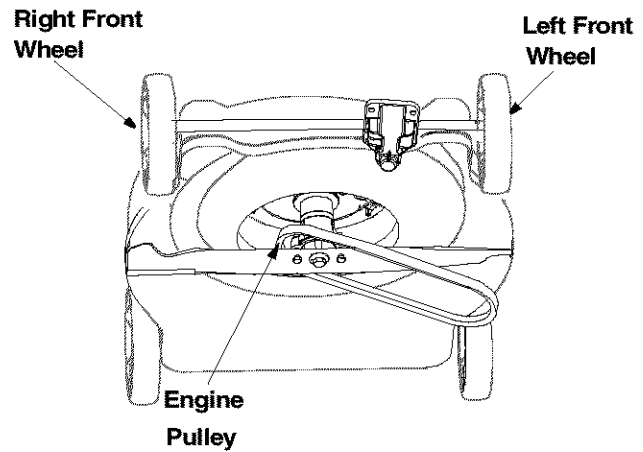

Figure 15
- Remove the belt from the engine pulley and around the blade. See Figure 15.